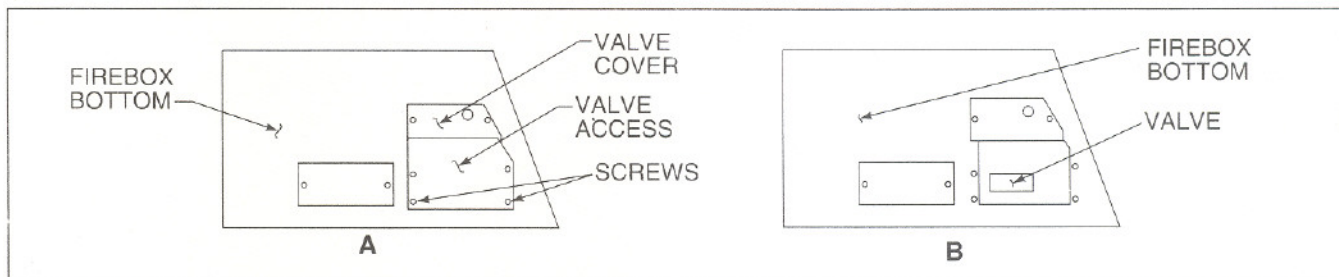
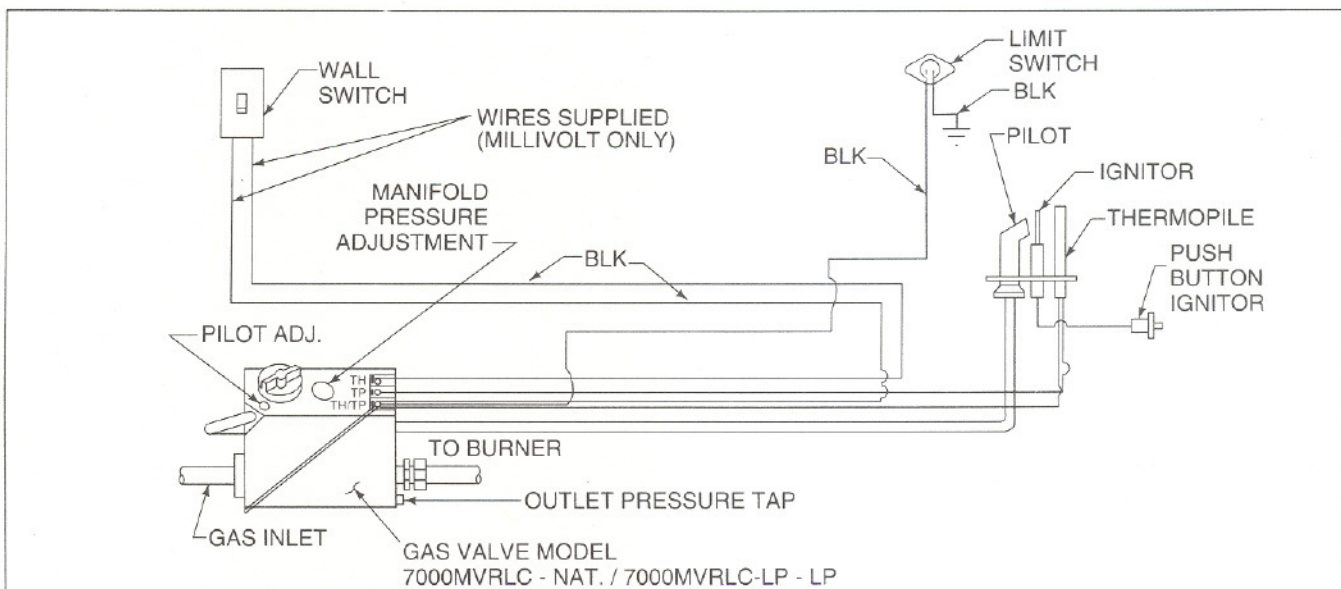

Figure 3
Figure 4
Connect the wall switch wires to the valve as shown in Figure 4. To ease in making connections, remove the logs, grate, valve access and valve cover assembly. The wall switch should be installed in a convenient location. A wall switch and 18 ga. wire are provided with the unit. Pass the wire through the plastic wire pass-throughs located on the right hand side of the unit. **NOTE: The maximum length is 40 ft.** Connect the gas line to the appliance valve inlet, using 3/8" pipe. Check for gas leaks with a soap and water solution. See Figure 3 for the location of gas valve. It is recommended to use a flexible gas connector to ease in installation. Run the 3/8" pipe approximately 3" into the unit. Connect a 12" to 18" flexible connector to the pipe and valve. Return all components to their correct position.
1. Remove the pilot adjustment cap. See Figure 4.